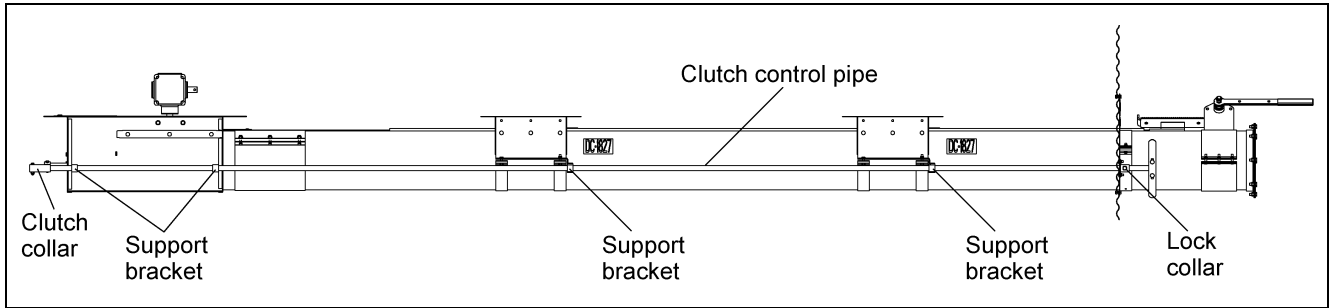
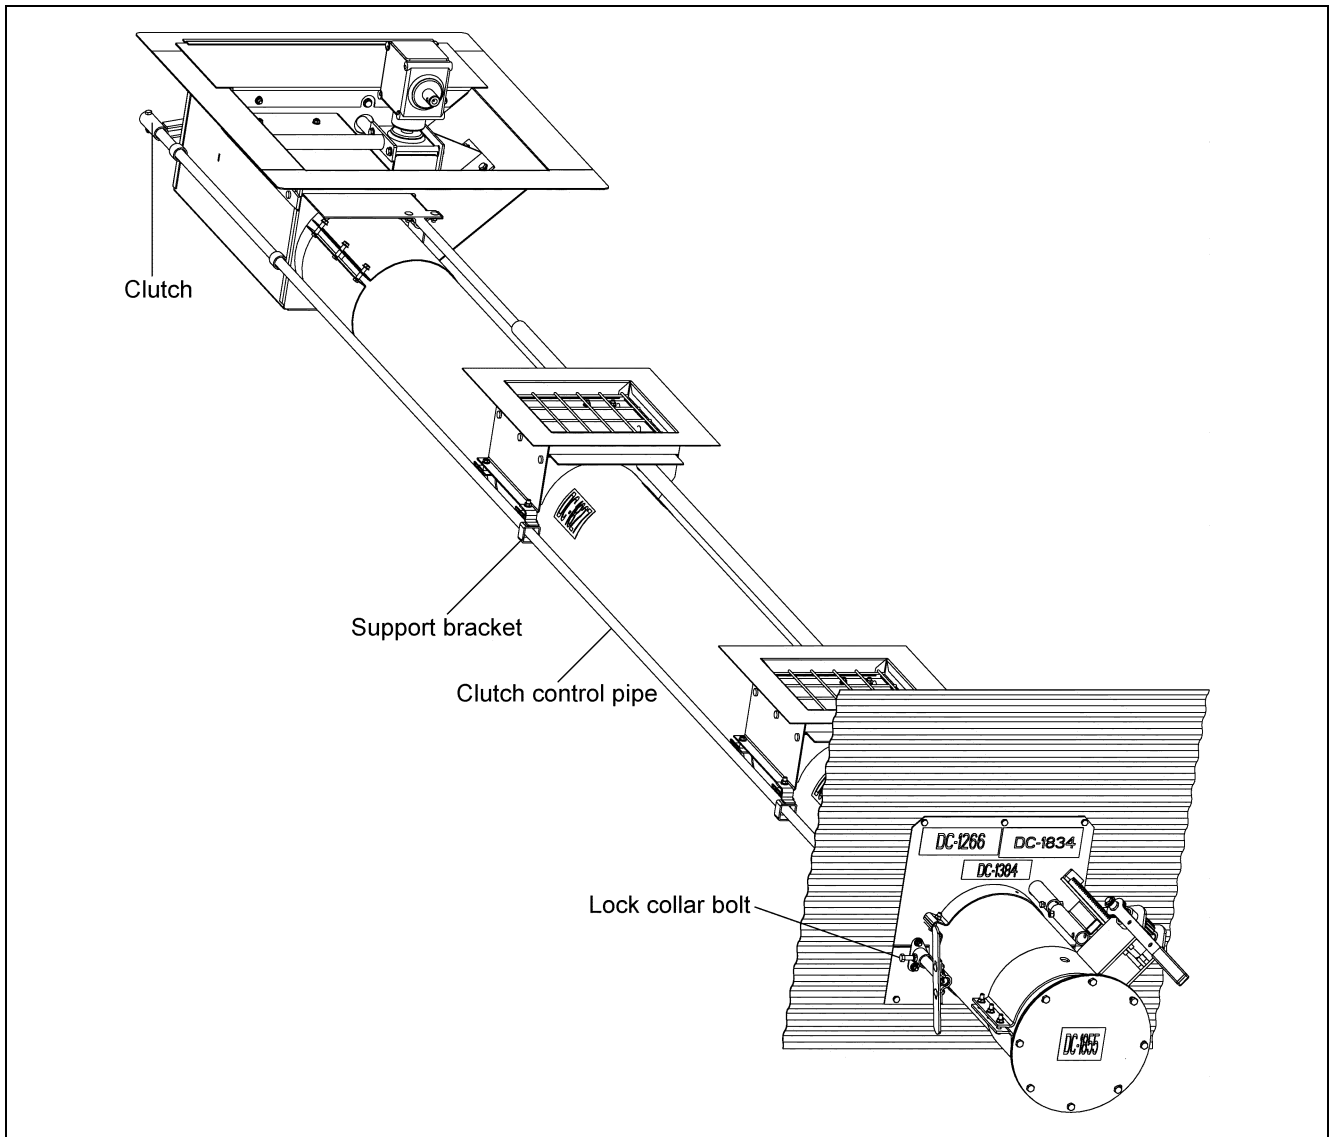

Figure 4S
Figure 4T
1. Slide the clutch control pipe through the bin flange and the support brackets on the intermediate and center wells. Slide the clutch control pipe into clutch collar on the center well. See Figure 4S and Figure 4T.
4. Check operation of clutch by pulling the handle to engage the clutch and then pushing the handle to disengage it. The control pipe should slide freely. Lock the control pipe into the disengaged position by tightening the bolt on the lock collar that is attached to the bin flange. (See Figure 4T on Page 26.)